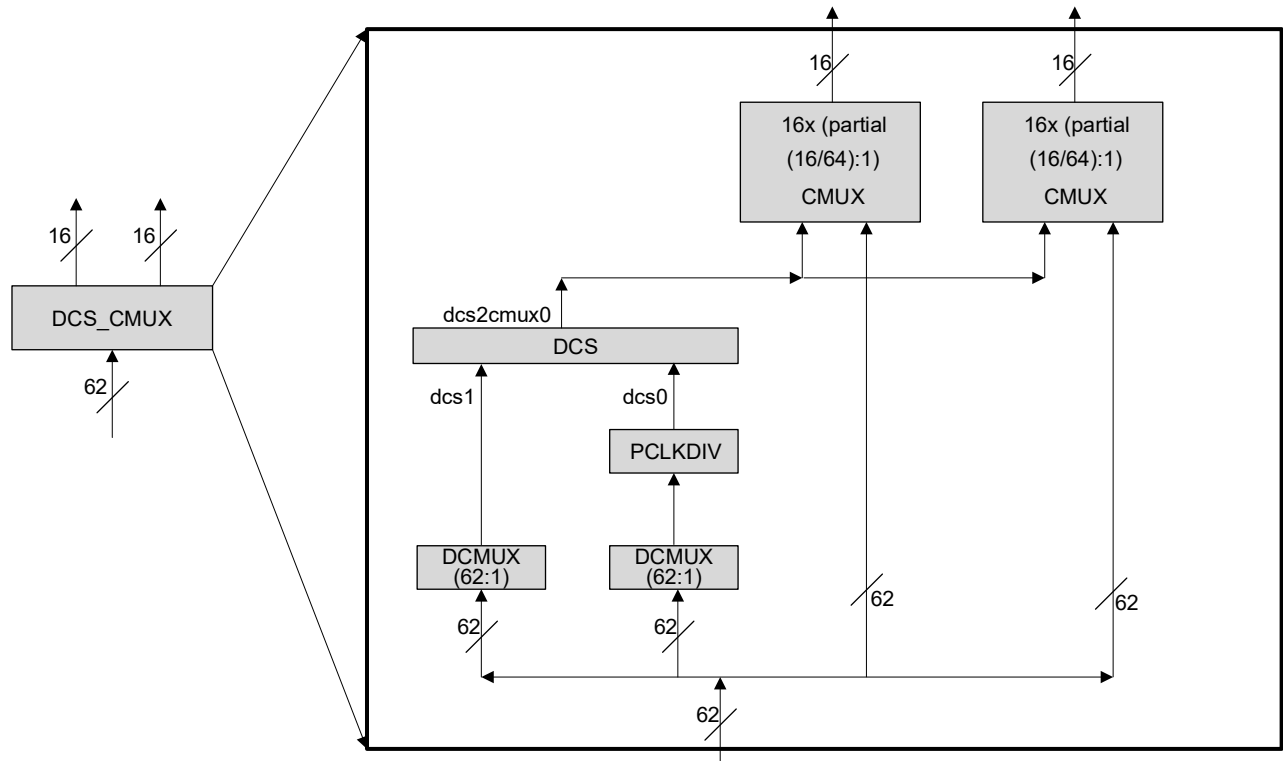

Figure 2.12. DCS_CMUX Diagram
The PCLKDIV supports $\div 2$, $\div 4$, $\div 8$, $\div 16$, $\div 32$, $\div 64$, $\div 128$, and $\div 1$ (bypass) operation. The PCLKDIV is fed from a DCSMUX within the DCS_CMUX block. The clock divider output drives one input of the DCS Dynamic Clock Select within the DCS_CMUX block. The Reset (RST) control signal is asynchronous and forces all outputs to low. The divider output starts at next cycle after the reset is synchronously released. The PCLKDIV is shown in context in Figure 2.12.
All clock sources are selected and combined for primary clock routing through the Dynamic Clock Selector Center Multiplexer logic (DCS_CMUX). There are one (1) or two (2) DCS_CMUX blocks per device. Each DCS_CMUX block contains two DCSMUX blocks, one PCLKDIV, one DCS block, and one or two CMUX blocks. See Figure 2.12 for a representative DCS_CMUX block diagram.